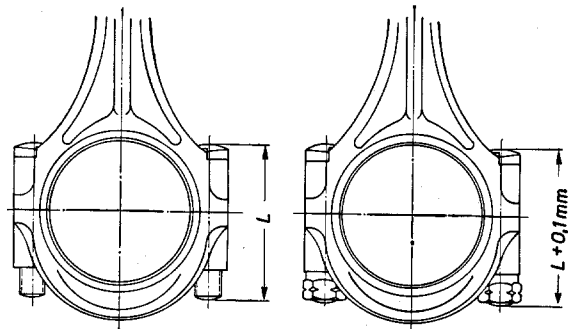

Figure 03-5/8
Measure first the length (L) of the connecting rod bolt without screwed-on nut, then tighten the nut so much that the bolt has expanded 0.1 mm (see Figure 03-5/8).